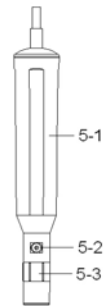

Fig. 2
- 1) Unscrew the " Probe head " (5-3, Fig 2).
- 4) Screw the " Probe head " (5-3, Fig 2) into the probe body.